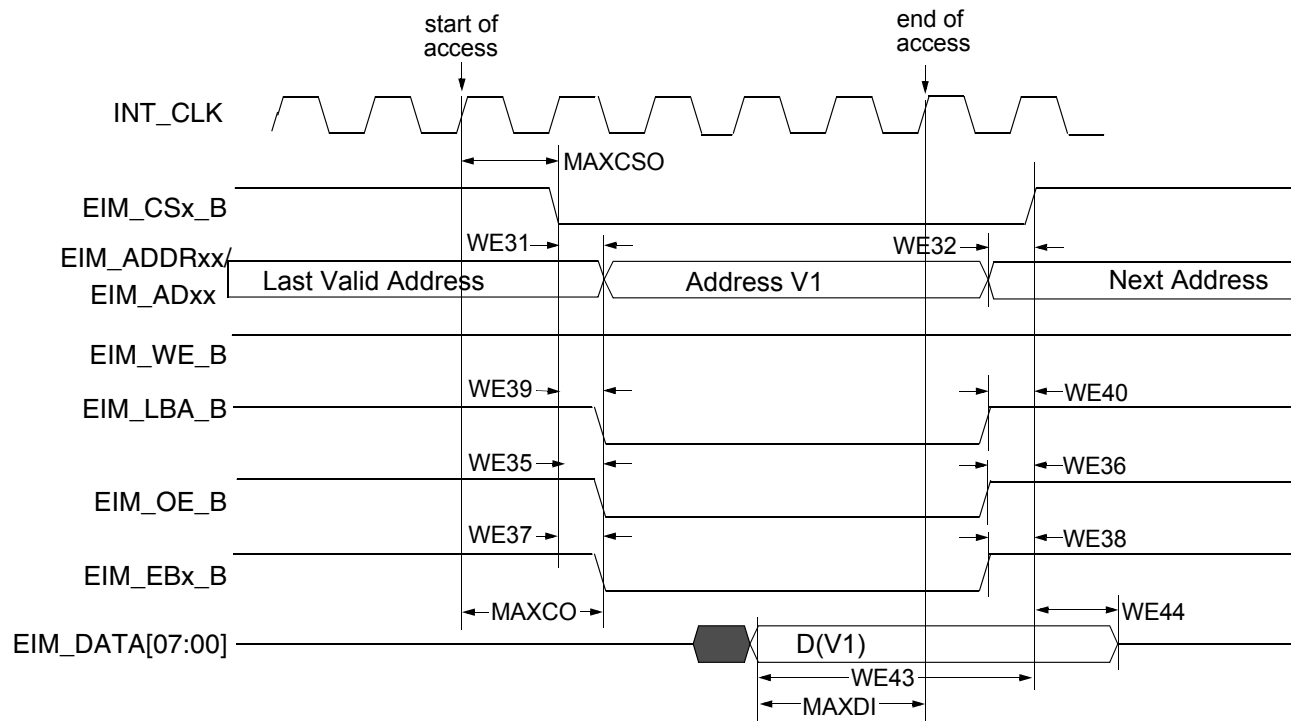
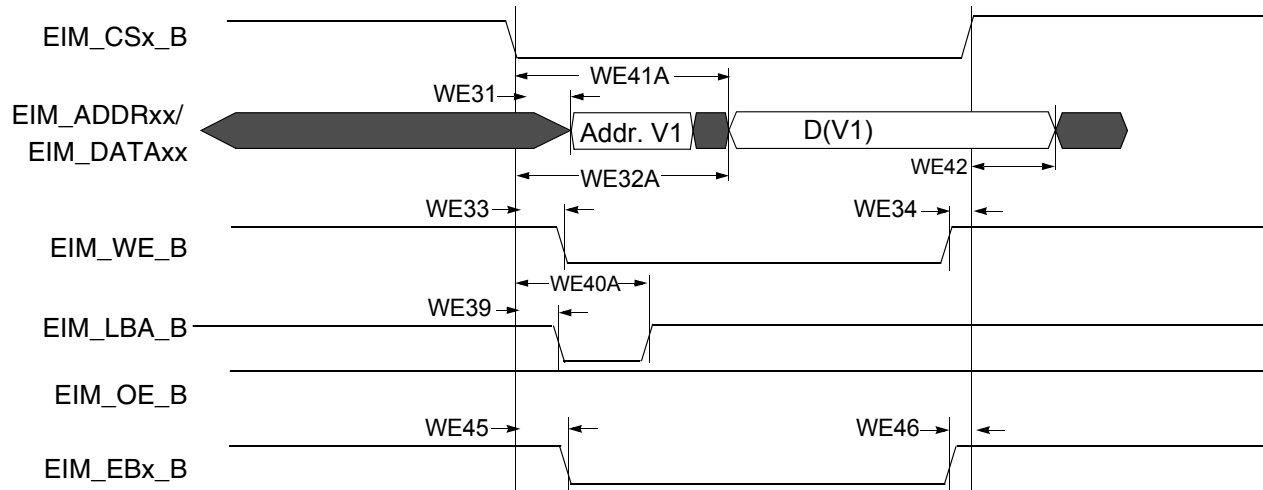
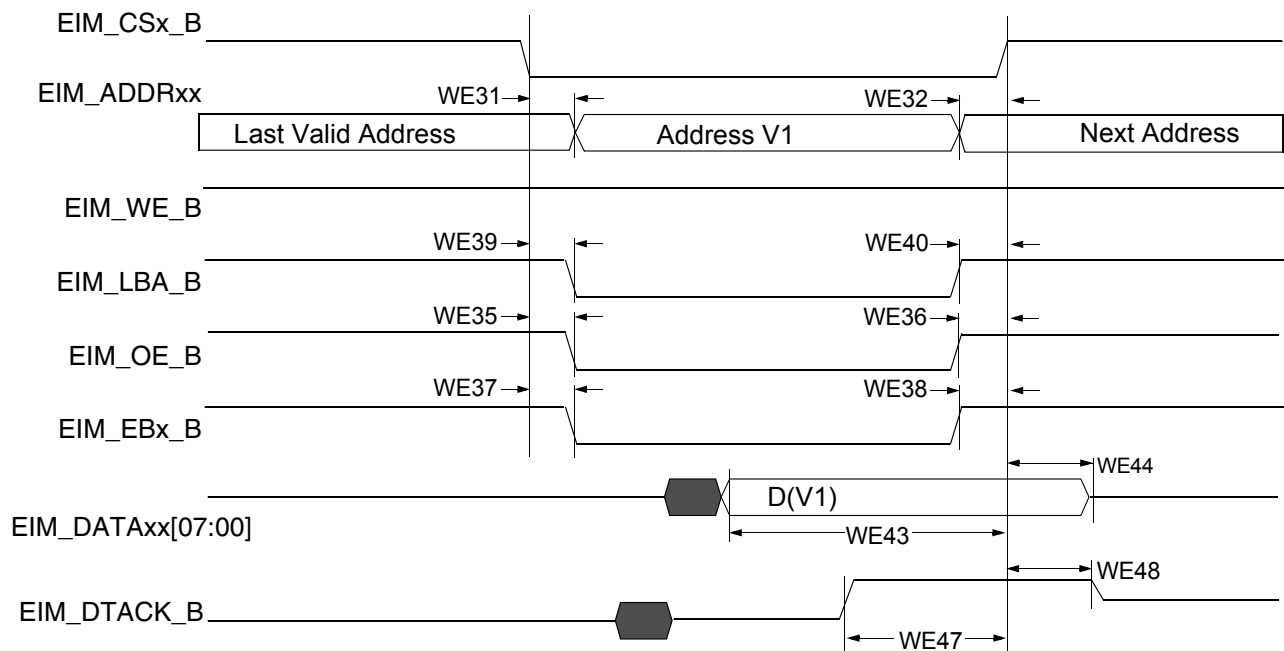

Figure 18. Asynchronous Memory Read Access (RWSC = 5)
Figure 21. Asynchronous A/D Muxed Write Access
Figure 22. DTACK Mode Read Access (DAP=0)
Figure 18 through Figure 22 and Table 42 provide timing parameters relative to the chip select (CS) state for asynchronous and DTACK EIM accesses with corresponding EIM bit fields and the timing parameters mentioned above.
Asynchronous read & write access length in cycles may vary from what is shown in Figure 18 through Figure 21 as RWSC, OEN & CSN is configured differently. See the i.MX 6Dual/6Quad reference manual (IMX6DQRM) for the EIM programming model.